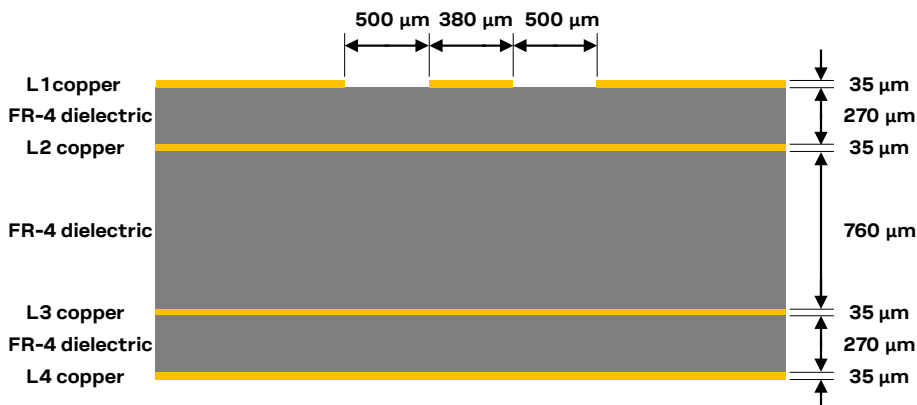
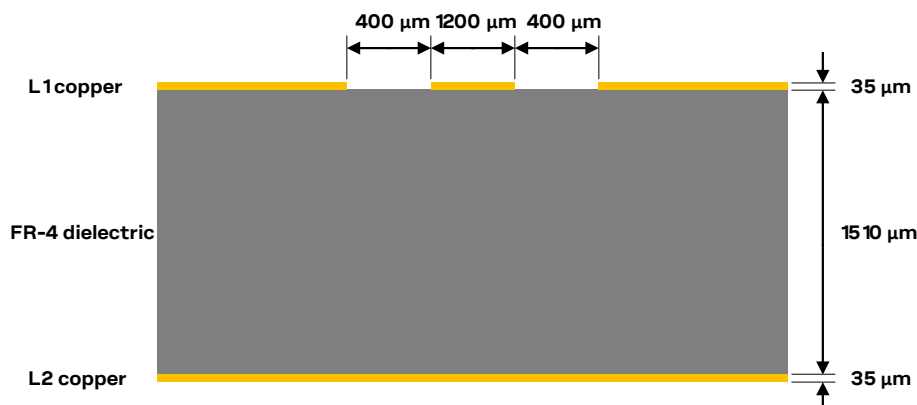

Figure 38: Example of 50 Ω coplanar waveguide transmission line design for the described 4-layer board layout
Figure 39: Example of 50 Ω coplanar waveguide transmission line design for the described 2-layer board layout
Figure 38 and Figure 39 provide two examples of suitable 50 Ω coplanar waveguide designs. The first transmission line can be implemented for a 4-layer PCB stack-up herein described, the second transmission line can be implemented for a 2-layer PCB stack-up herein described.
- the thickness of the transmission line itself (e.g. $35\ \mu\text{m}$ in the example of Figure 38 and Figure 39)
- the thickness of the dielectric material between the top layer (where the transmission line is routed) and the inner closer layer implementing the ground plane (e.g. $270\ \mu\text{m}$ in Figure 38, $1510\ \mu\text{m}$ in Figure 39)
- the dielectric constant of the dielectric material (e.g. dielectric constant of the FR-4 dielectric material in Figure 38 and Figure 39)
- the gap from the transmission line to the adjacent ground plane on the same layer of the transmission line (e.g. $500\ \mu\text{m}$ in Figure 38, $400\ \mu\text{m}$ in Figure 39)